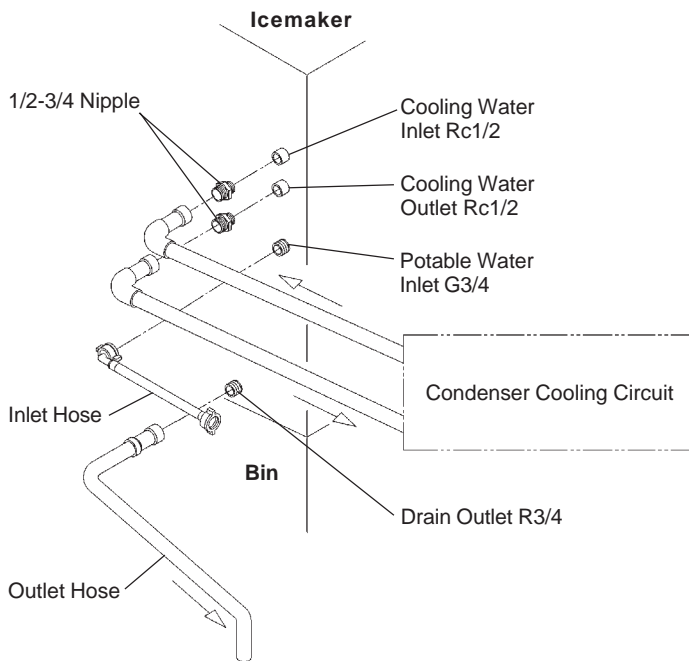

Fig. 9
**[a] Standard connections according to WRC regulations in U.K. (Fig. 9 and 10)**
3) Attach grey flexible outlet hose (accessory) to the R3/4 fitting on the rear of the icemaker as indicated (Fig. 9), confirming fitment of
5) Connect the Condenser cooling circuit to the free end of 1/2-3/4 nipples as indicated (Fig. 9) using a suitable rigid type pipe. P.T.F.E. tape and/or a suitable sealing compound should be used to obtain a leak free joint.